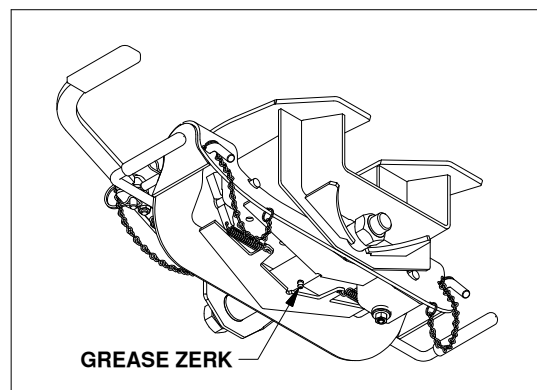

Figure G1: View under coupler.
- Grease the saddle through the grease zerk approximately every six months with multi-purpose grease. this allows the coupler to pivot freely, see Figure G1.